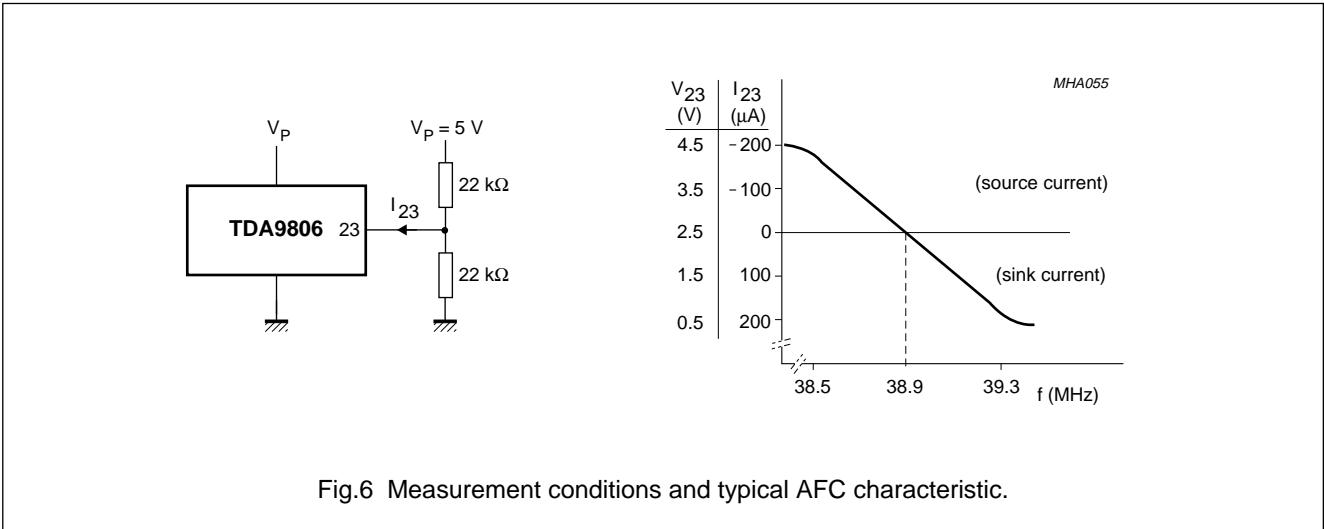

Fig.6 Measurement conditions and typical AFC characteristic.
- 14. To match the AFC output signal to different tuning systems a current source output is provided. The test circuit is given in Fig.6. The AFC-steepness can be changed by the resistors at pin 23.